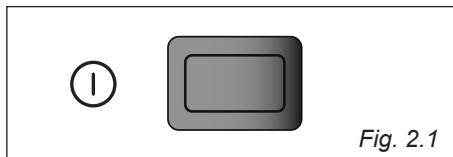

Fig. 2.1
- Switch on the drawer by pressing the pushbutton (fig. 2.1).